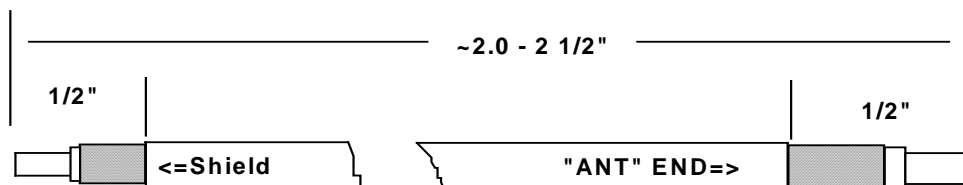
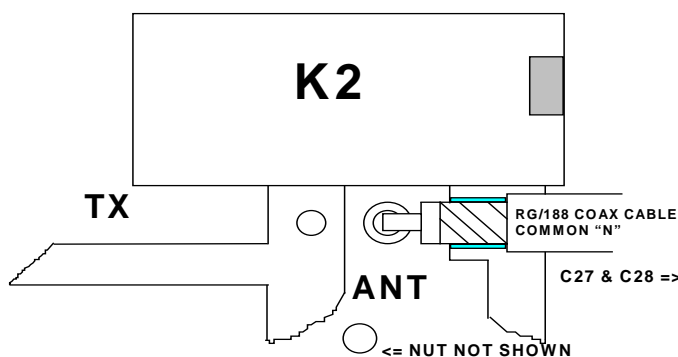

Figure 6 Cable shown broken for clarity
Figure 7 Coaxial Cable mounting on PCB shaded areas are solder points
Connect the #22 Teflon wire from the stand alone hole in the PCB near R14 labeled RXIF to the RXIF BNC jack and solder. Connect the #22 Teflon wire from the stand alone hole in the PCB near R18 labeled TXIF to the TXIF BNC jack and solder. The following assembly order is recommended for completion of the transverter for common RX/TX connector. For split TX / RX refer to section 1 of DEM 50-28 user options. Prepare the common output coaxial cable as in Figure 6. Cut the coax to 2" - 2 1/2". Remove the outer insulation 1/2" from both ends. Remove the braided shield 1/4" from both ends. Remove the center conductor insulation 1/8" from each end. Solder tin the center conductor and shield on both ends. Position one end on the circuit board by placing the center conductor in the hole on the board labeled "ANT". This hole is located near relay labeled K1. Angle the coax towards the trimmer capacitors C27 and C28 (See Figure 7). Solder the shield to the ground area adjacent to the "ANT" hole for the center conductor, then solder the center conductor in the "ANT" hole. Route the coaxial cable around the relay to the solder lug on the wall mounted 'N' or UHF connector. Bend the ground lug towards the center pin as close as possible. Solder the center conductor of the coaxial cable to the center pin, then solder the shield to the ground lug.
2. Prepare two pieces of RG/188 coax as shown in Figure 6 of the DEM assembly documents.